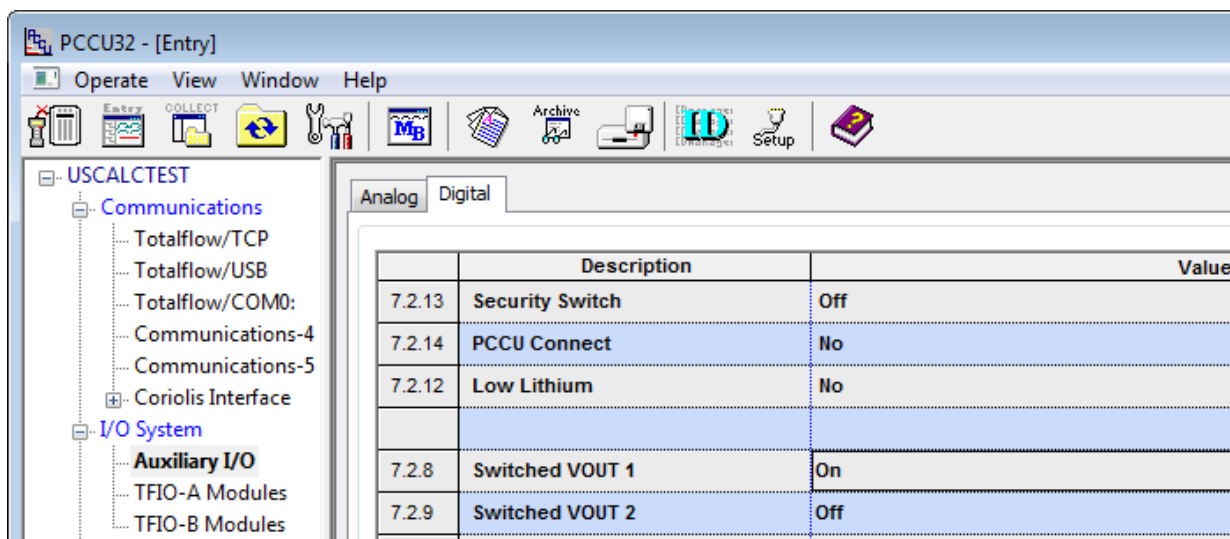

Figure 39: Serial COMM port for switched power
3. Click the **Digital** tab (Figure 39).